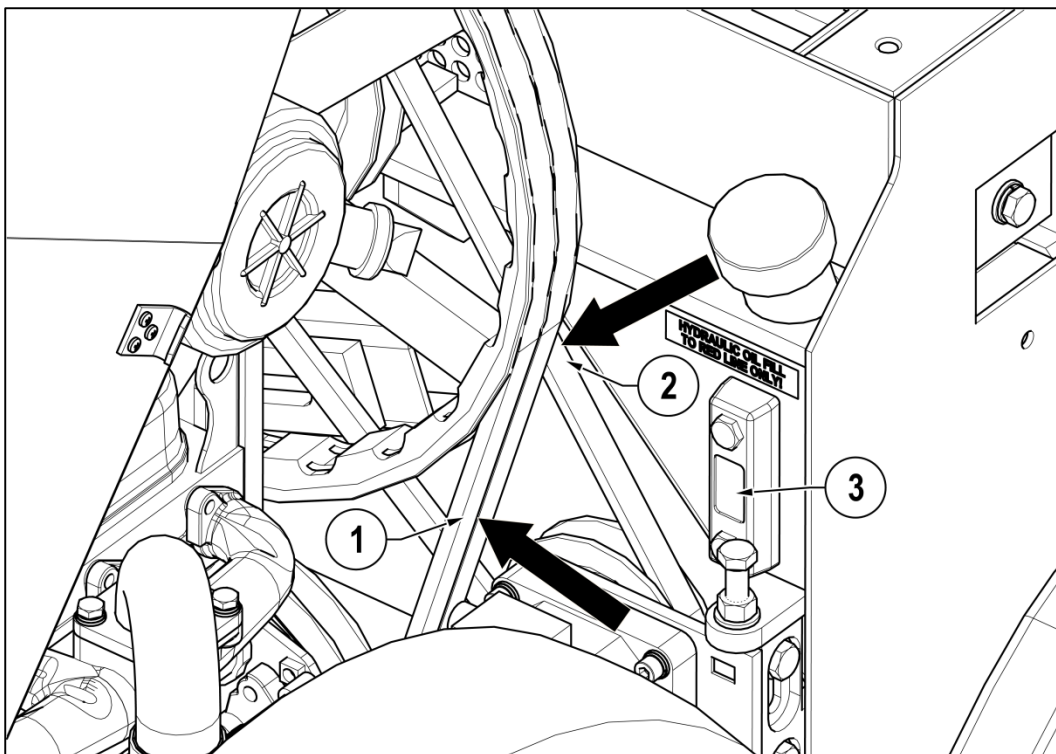

Figure 17
All drive belts are located under the engine cover as shown in Figure 12 and Figure 13 and tension checked at arrows shown in Figure 17. Check and set tension as follows:
3. Turn adjuster nut or screw to tension belt until 4.5Kg force at the belt longest centre span deflects by 6mm (see Figure 17). Can be approximated by firmly gripping belt between finger and thumb and twisting. The belt should not be able to be rotated more than 90°.